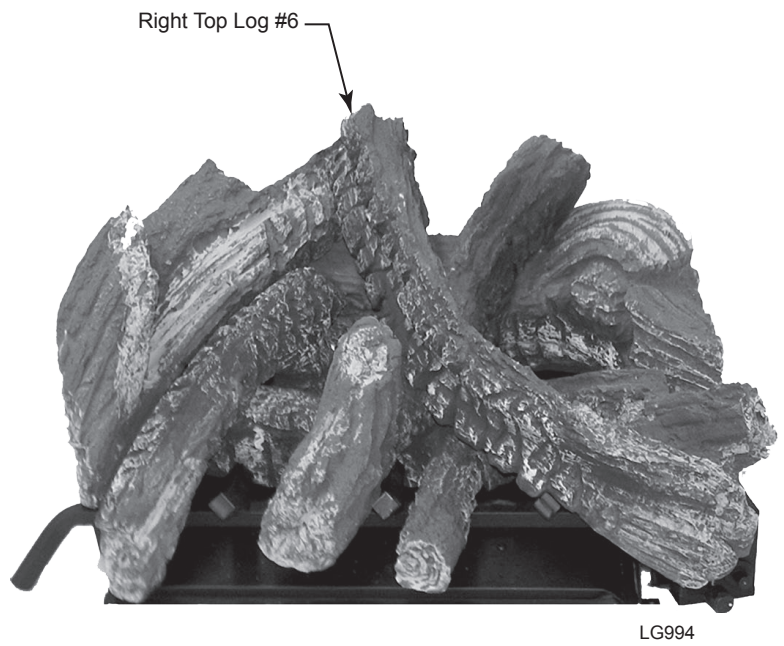

Figure 33
6. Rest right top log (#6) on center crossover log and front of grate. *Figure 33*